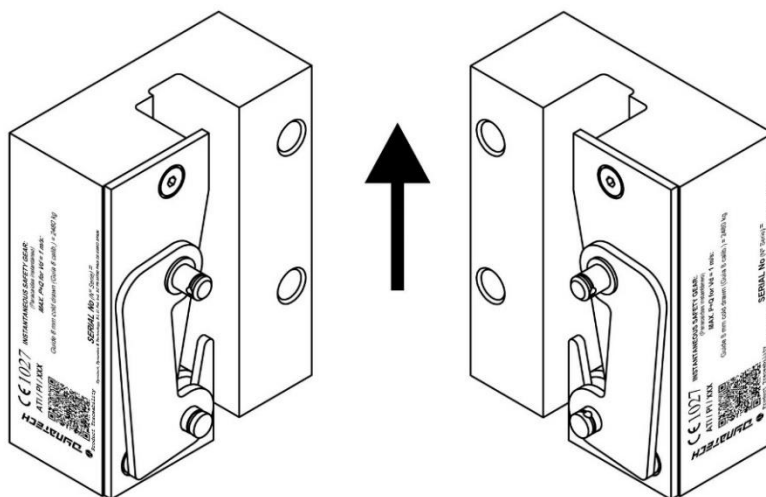

Figure 3: Direction of assembly
- a)  Safety gear position: The safety gears should be assembled in the position displayed in Figure 3